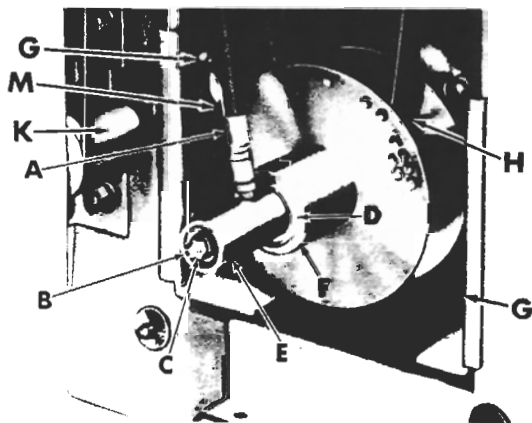

Figure 55
6. While holding variable dial against low speed stop, pull out pulley (F, fig. 55) until variable belt (H) is loose.
7. Measure distance from end of shaft (B) to nut (C). NOTE: Record this dimension.
16. Loosen four nuts (G, fig. 55) until motor hangers are at bottom of slots.
18. Shift power feed pulley assembly (K, fig. 55) until belt can be taken off pulley (M).